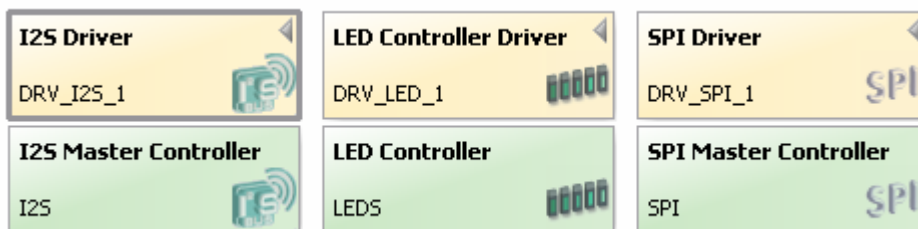

Figure 17. Then add the drivers.
40. Click on each wrapper in turn, then click the **Grow Stack Up** button, adding the driver of the same name to each wrapper, as shown in Figure 17.